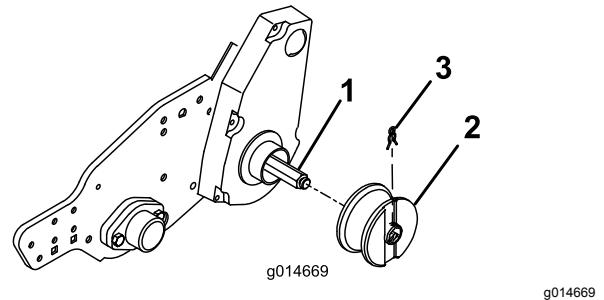

Figure 6
3. Insert a rail wheel onto each shaft and secure it with a wheel clip (Figure 6).